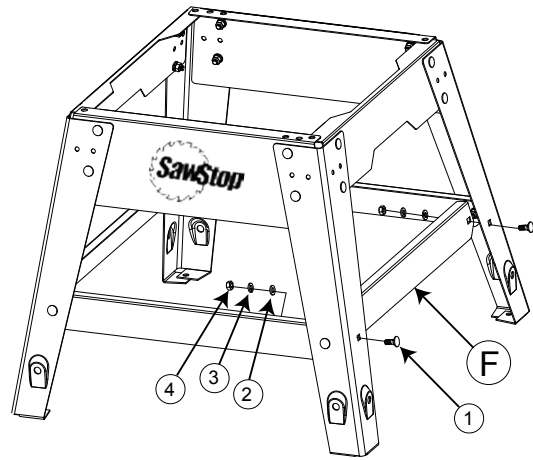

Fig. 7
7. Attach one long bracket marked F between the legs on the right side of the stand (see Fig. 7). Make sure the legs are in front of the brackets. Use two M8 x 20 carriage bolts, two M8 washers, two M8 lock washers, and two M8 hex nuts to attach the long bracket. Do not fully tighten the nuts. Repeat this process to attach the remaining long bracket between the legs on the left side of the stand.